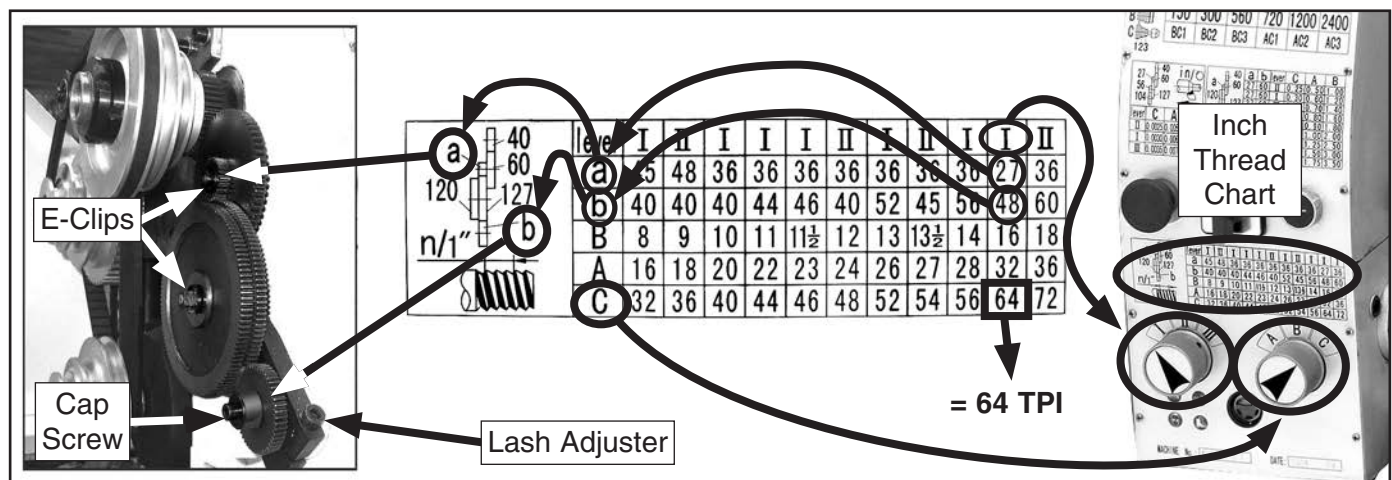

Figure 62. Threading setup for 64 TPI.
2. Turn the feed dials to the numeral and letter indicated by the chart in **Figure 62**.
6. Lubricate the change gears (refer to **Page 55** for detailed instructions) and swap them out in the order shown on the chart in **Figure 62**, then secure the change gears with the E-clips and cap screw.